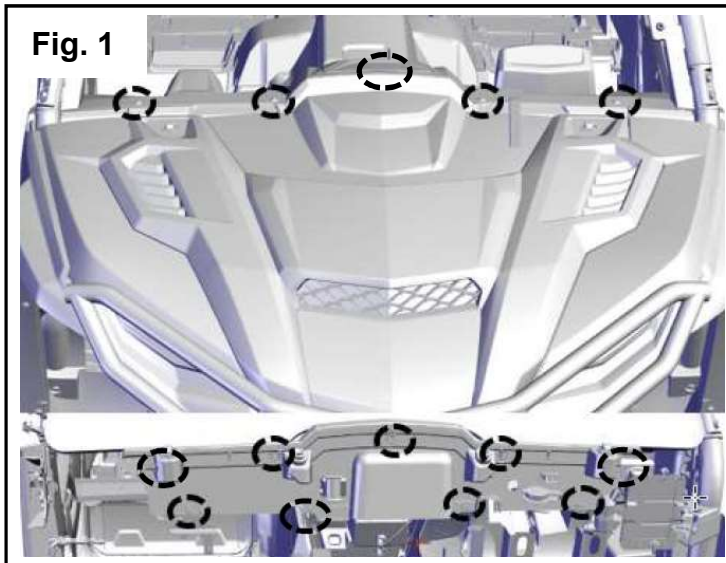

Fig. 1
1. Remove the hood and the inner firewall. Retain the hardware for reinstallation. (Fig. 1)